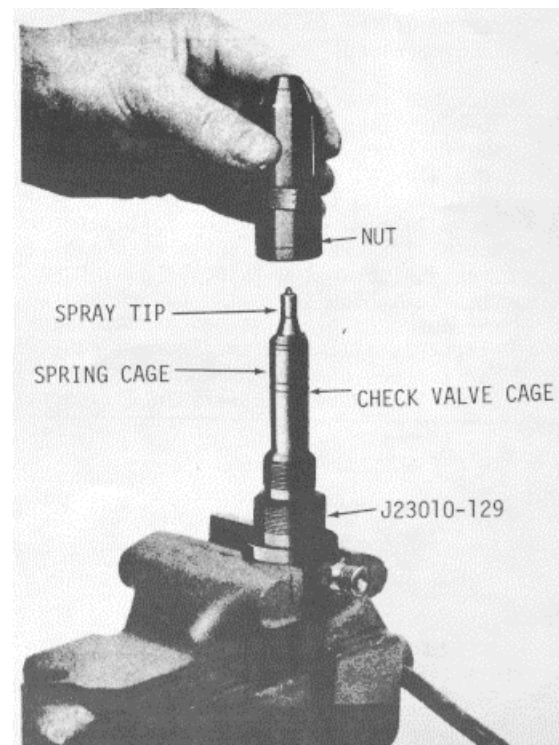
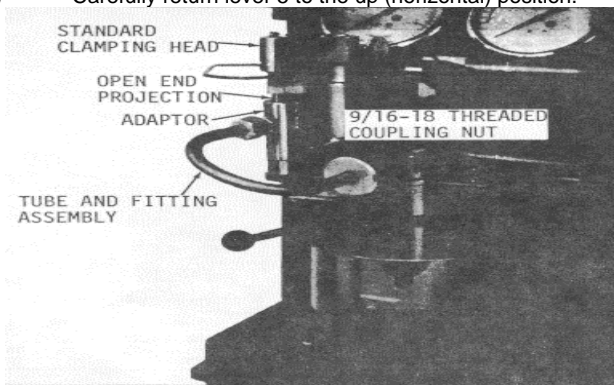

Fig. 14 Assembling Injector Valve Parts on Tip Tester Adapter J 23010-129
Fig. 15
- (1) Clamp the flat sides of the tip test adaptor J 23010-129 firmly in a vise and assemble the cleaned injector parts, including the check valve cage, spring, spring seat, spring cage and spray tip assembly.
- (2) Carefully pilot the injector nut over the spray tip and valve parts and thread it onto the adaptor (Fig.14).
- (3) Tighten the injector nut.
- (4) Mount the adaptor and assembled injector parts in the support bracket (adaptor plate not needed). Refer to Fig. 15.
- (5) Install the offset clamping head on the clamping post (on J 23010 testers without serial numbers, use the upper detent position and on J 23010 testers numbered 1051 and higher, use the lower detent position.)
- (6) Select the (larger) 9/16"-18 threaded coupling nut J 23010-20 and thread it on tubing J 23010-75.
- (1) Position the adaptor and tubing assembly with the solid projecting end located in the hole on the left side of the support bracket.
- (2) Swing the clamping head over the adaptor and clamp it with the oil supply outlet aligned over the open projecting end of the adaptor (Fig. 15).